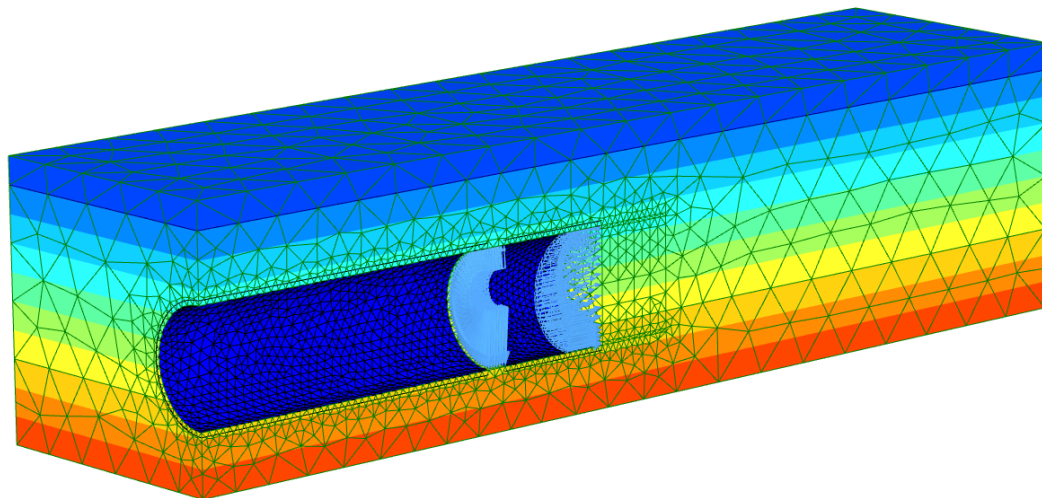

Figure 89: Preview of the Phase 1
7.  Click the **Preview** button to get a preview of the excavation up to the first 35.5 m (Figure 89 (on page 112)). Make sure that both grout pressure and tunnel face pressure are applied and that both increase from top to bottom.